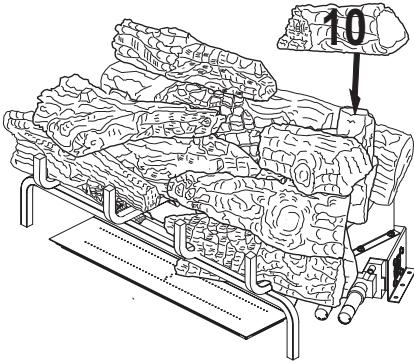

Figure 46 - Installing Log # 10
- Place the right rear top log (#10) on top of the right rear chunk log (#7) as shown in Figure 46, page 20. Match the rectangular peg on the top of the right rear chunk log (#7) with the rectangular hole on the bottom of the right rear top log (#10).